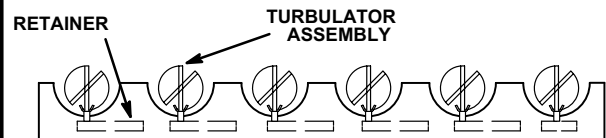

FIGURE 4
- 10- Carefully insert turbulator assemblies into heat exchanger tubes. Orient as shown in figure 4.